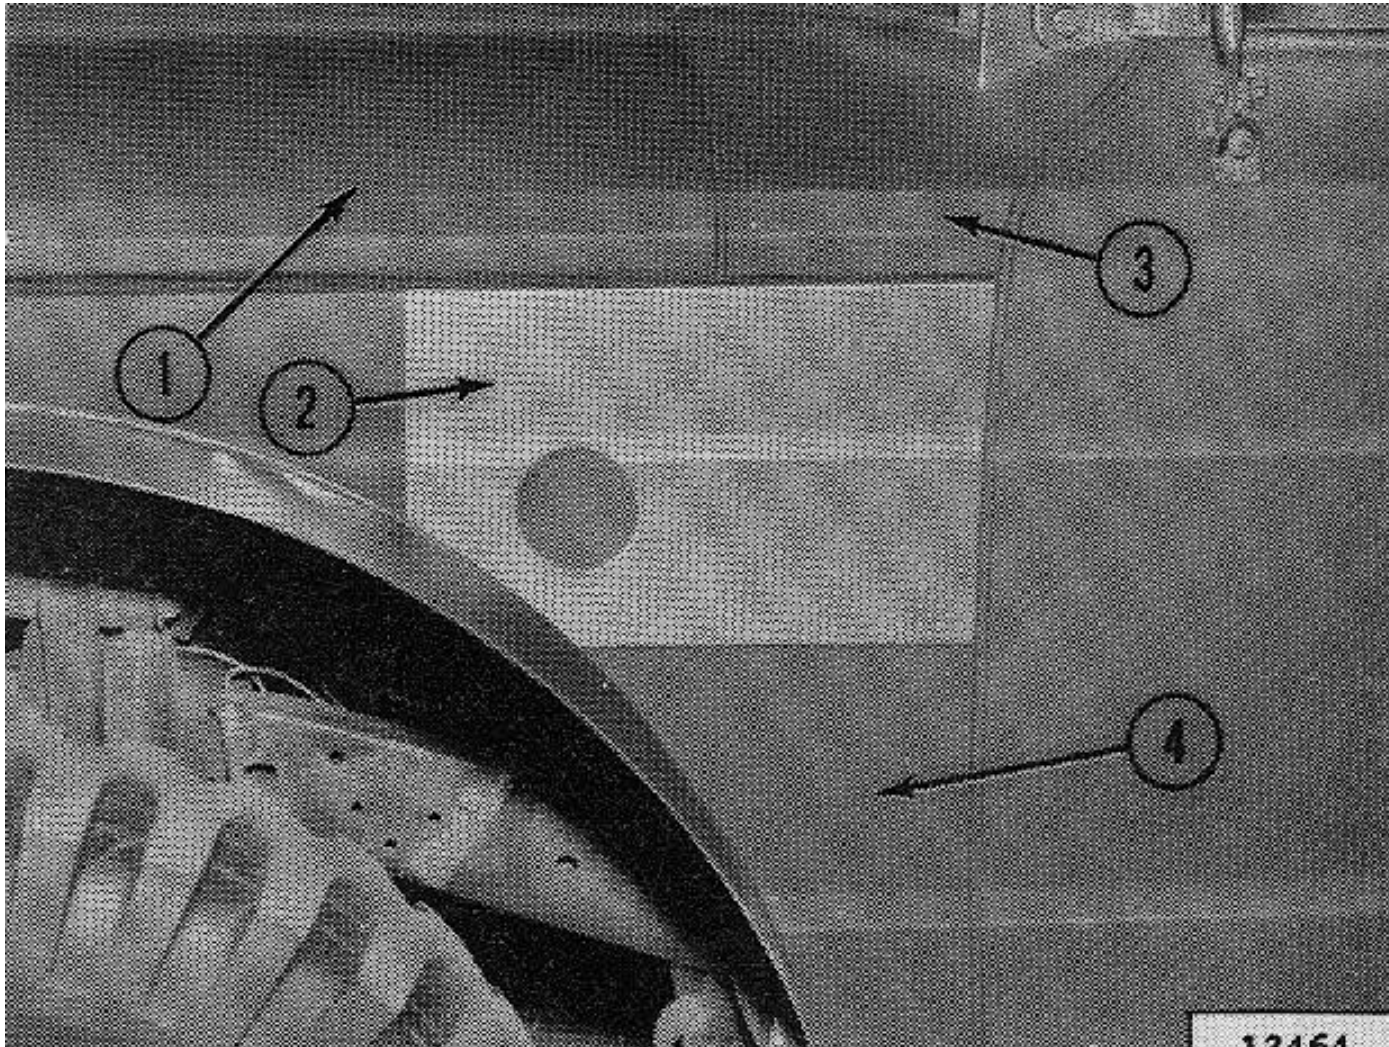

FIG. 33-B3 TEMPLATE POSITIONED ON FENDER
Mount the shielded exhaust extension tube using a gasket between the tail pipe flange and the tube flange. Use three (3) 7/16-20x1½ bolts and hug-lock nuts to secure the extension tube to the exhaust pipe flange. On M715 Cargo Trucks, holding the tube vertically and in line with the rear support of the body, use a center punch and mark centers of the two support bracket holes (Fig. 33-B2). Drill two (2) 1 3/32" holes in the body support and use two (2) 3/8-24x1 1/8 bolts, lock-nuts and washers to secure the tube brackets to the body. On the Ambulance Vehicle (M725), mounting holes to hold the tube in the vertical position are provided on the vehicle body. Remove screws plugging holes. Use two (2) 3/8-24x1 bolts, lock washers and plain washers to secure the tube brackets to the body.